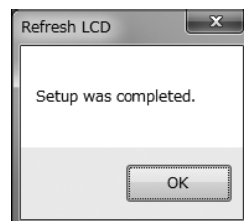

Fig.79
- ⑤ Click "OK" to change the settings to the selected values, and then click the "OK" button in the displayed message box (Fig. 79) to complete the setting process.